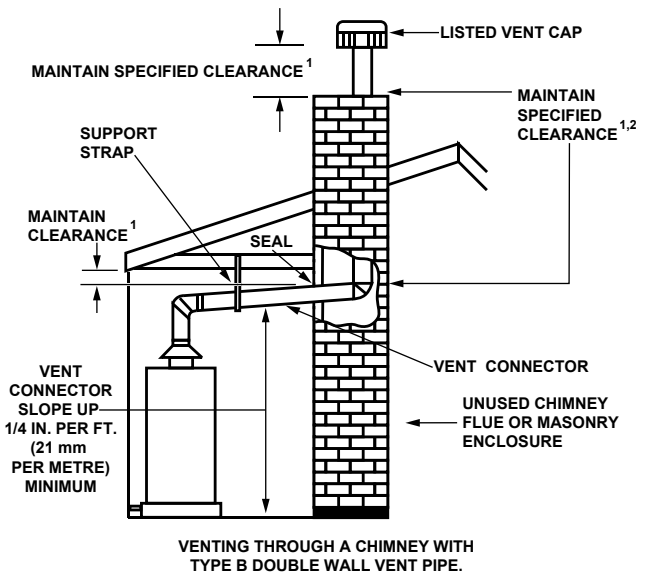

FIGURE 12.
**IMPORTANT:** This gas vent must be terminated in a vertical position to facilitate the removal of the burnt gases. An unused chimney flue or masonry enclosure may be used as a passageway for the installation of a gas vent (Figure 12). Common (combined) venting is allowable with vertical type B vent systems and lined masonry chimneys as long as proper draft for the water heater is established under all conditions of operation. **CAUTION: DO NOT** common vent this water heater with any power vented appliance.